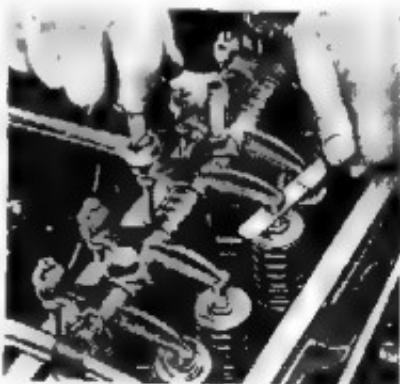

Fig. 28—Valve Tappet Adjustment
3. Check the clearance between the rocker arms and the valve stems with a feeler gauge (fig. 28). The clearance should be as follows.
4. When adjustment is necessary loosen the rocker arm adjusting screw lock nut and turn the screw clockwise slightly to decrease clearance and counterclockwise to increase clearance (fig. 28). Tighten lock nut and recheck clearance.